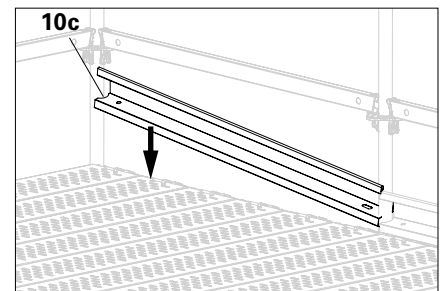

Fig. A2.16b
3. Semi-circle (**10c**) must be positioned at the level of the Standard UVR (**4b**), then lower. (Fig. A2.16b)